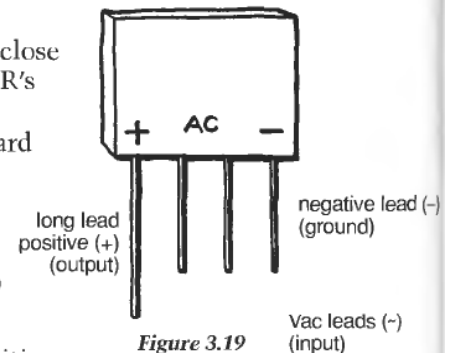

Figure 3.19
- BR4 [+]; orient the positive end to the bottom of the board. Do not use the long lead as a guide; go by the printing on the device itself (Figure 3.19).